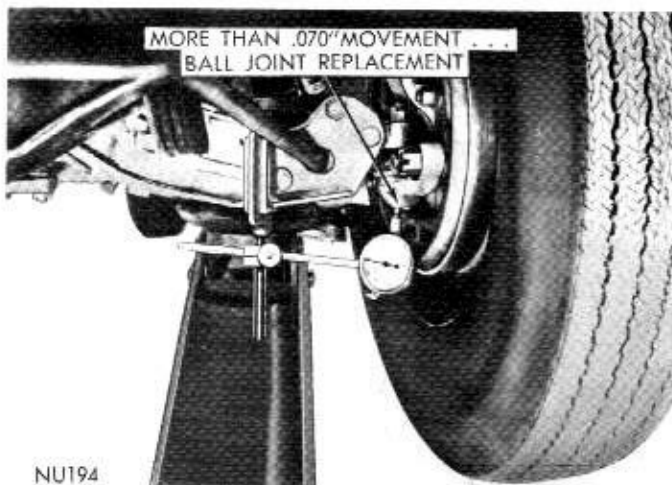

Fig. 12—Measuring Lower Ball Joint Axial Travel
(1) Raise the front of vehicle and install safety floor stands under both lower control arms as far outboard as possible. The upper control arms must not contact the rubber rebound bumpers.
(2) With the weight of vehicle on the control arm, install dial indicator and clamp assembly to lower control arm (Fig. 12).
(3) Position dial indicator plunger tip against ball joint housing assembly and zero dial indicator.
(4) Measure axial travel of the ball joint housing